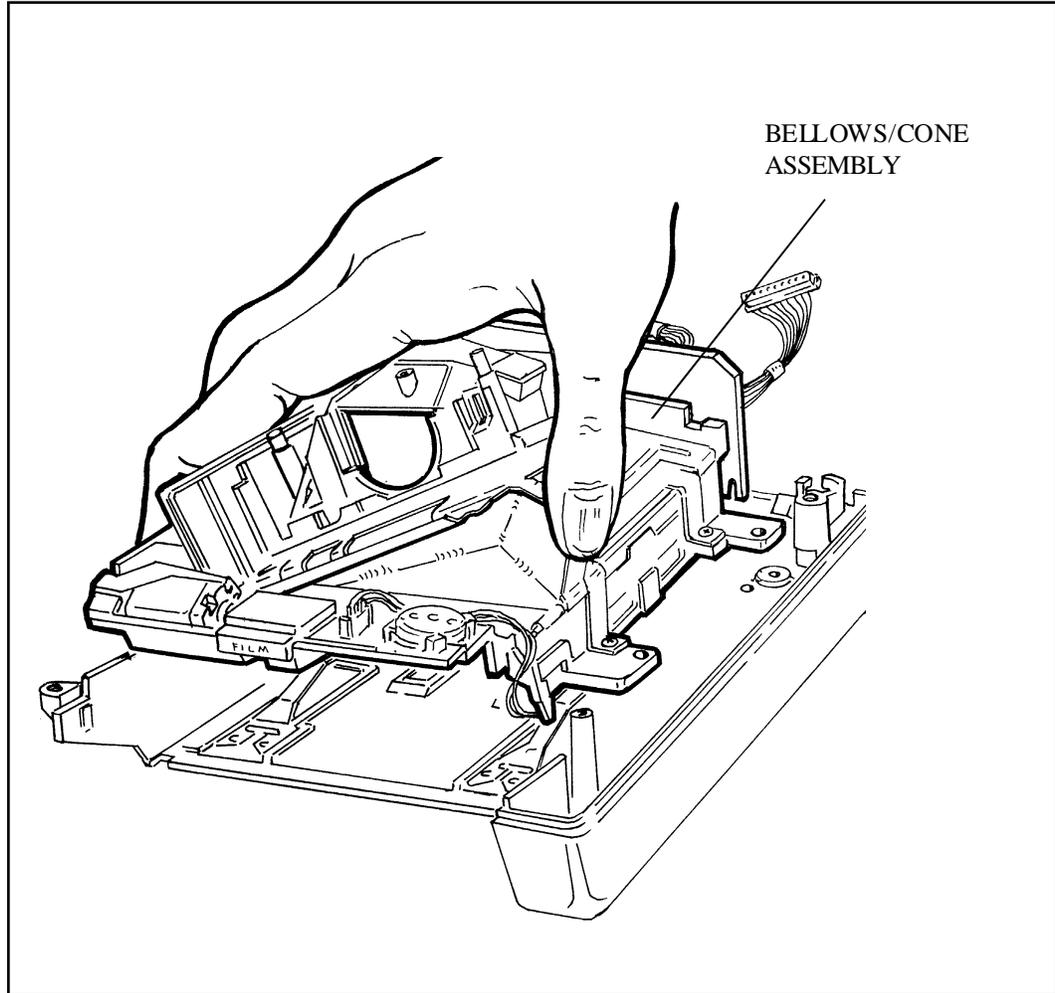

Figure 3-23. Removing Cone Assembly from Bottom Cover
- d. Now lift the Cone Assembly off the Bottom Cover (Figure 3-23).